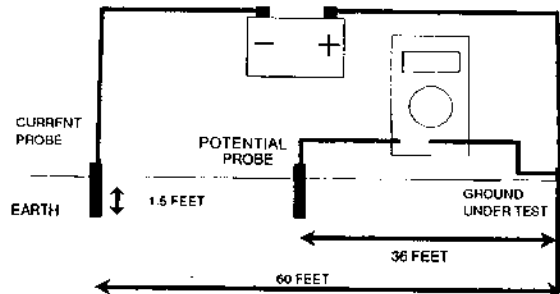

Figure 28 - Voltage measurement
- 2) Place the multimeter in series with the potential probe and the ground rod (see figure 28). Set the multimeter for a voltage reading.
- 3) Connect the battery in series with the current probe and the ground under test (see figure 28). Take a voltage reading between the potential probe and ground under test with the multimeter. Disconnect the battery.